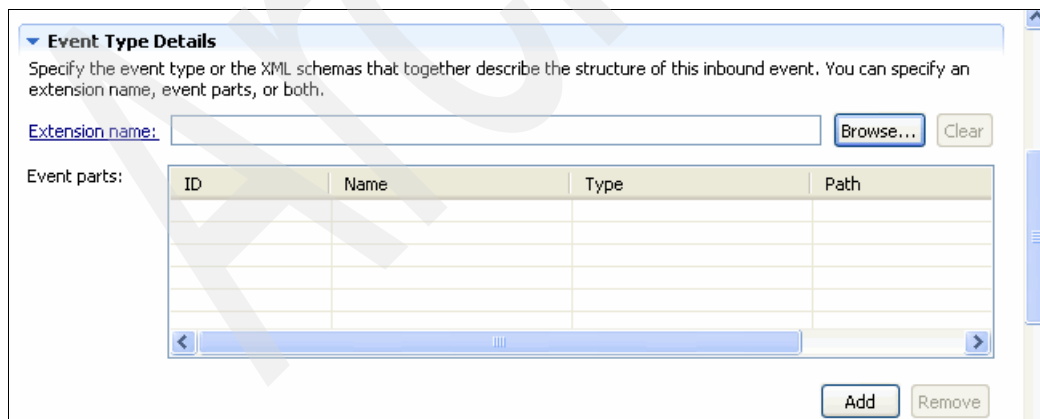

Figure 10-37 Event Type Details section
3. Scroll to the Event Type Details section (Figure 10-37). For Extension name, click **Browse** to select an event.